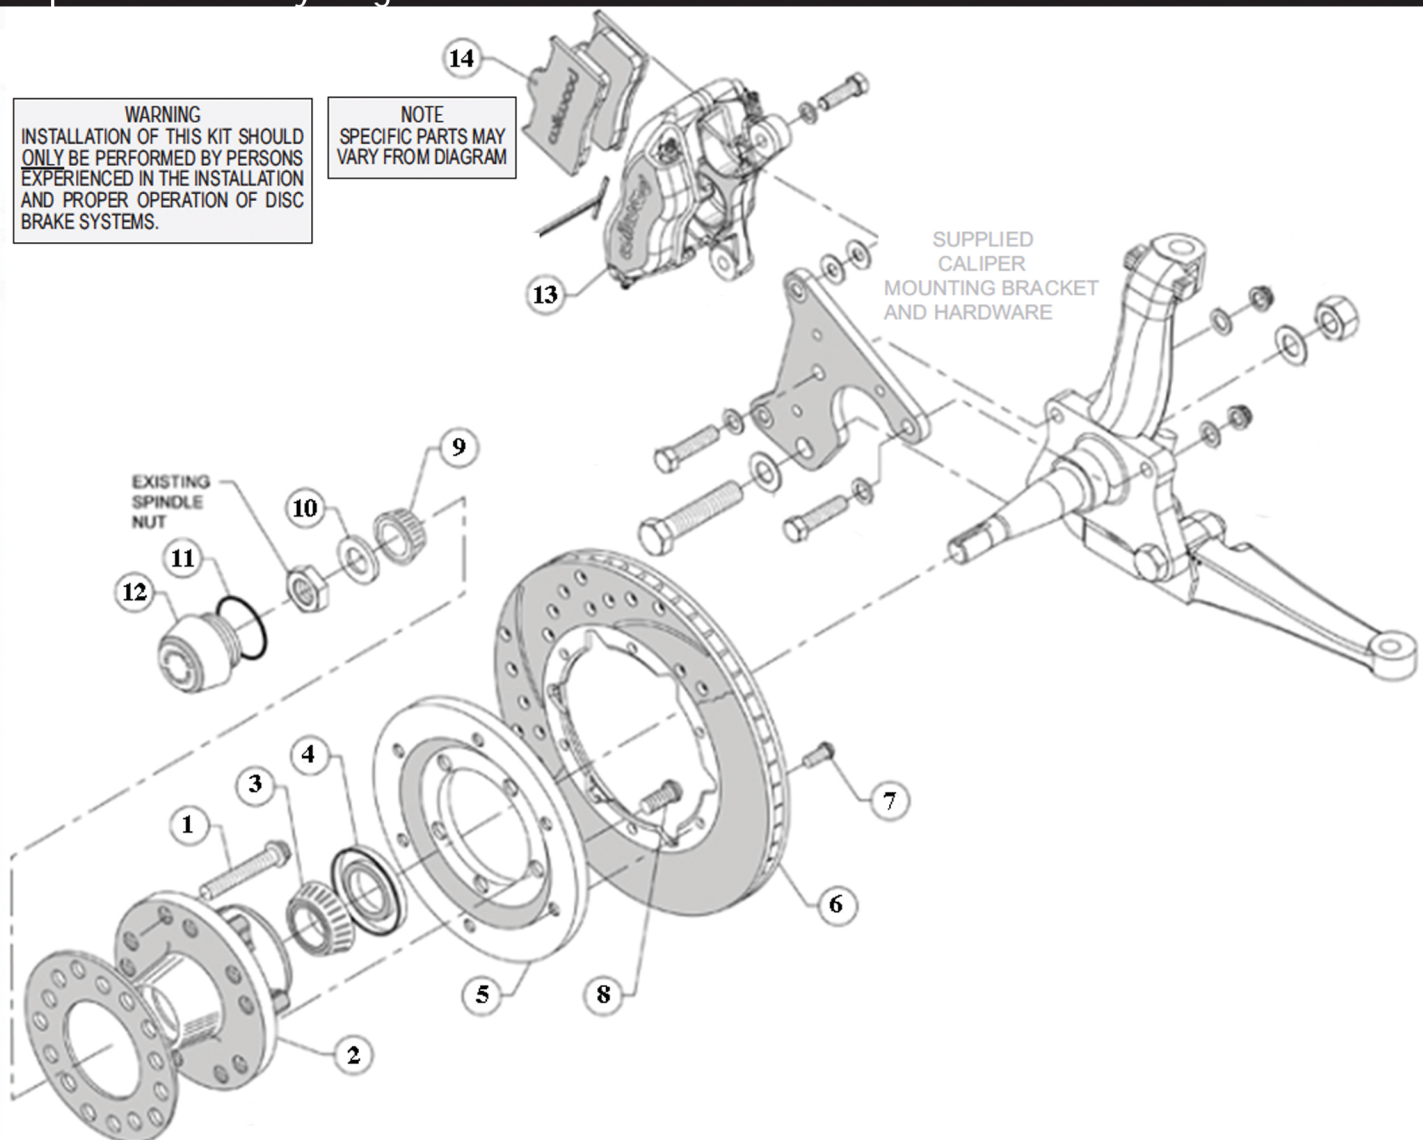

Figure 1. Typical Installation Configuration
### Assembly Instructions (numbers in parenthesis refer to the parts list on the preceding page, and Figure 1):
- Install the grease seal (4) by pressing into the backside of the hub (2), flush with the end of the hub, Photo 2.
- Orient the rotor (6) and the rotor adapter (5) as shown in Figure 1 and Photo 3. Attach the rotor to the adapter using bolts (7). Using an alternating sequence, apply red *Loctite*® 271 to the threads, and torque to 25 ft-lb.
- Mount the adapter/rotor assembly (5/6) to the hub (2) using bolts (8), as shown in Figure 1 and Photo 4. Using an alternating sequence, apply red *Loctite*® 271 to the threads, and torque to 55 ft-lb.
- Mount the caliper (13) onto the customer supplied caliper bracket using customer supplied hardware. Temporarily tighten mount bolts. View the rotor (6) through the top of the caliper (13). The rotor should be centered in the caliper, Photo 7. If not, adjust by adding or subtracting customer supplied shims between the bracket and the caliper. Always use the same amount of shims on each of the two mounting bolts. Once the caliper alignment is correct, remove the bolts one at a time, apply red *Loctite*® 271 to bolt threads, and torque to bracket manufacturer's specification.
- Insert the brake pads (14) into the caliper with the friction material facing the rotor (6), as shown in Figure 1 and Photo 8. Secure the pads in place using the cotter pin, Photo 8.